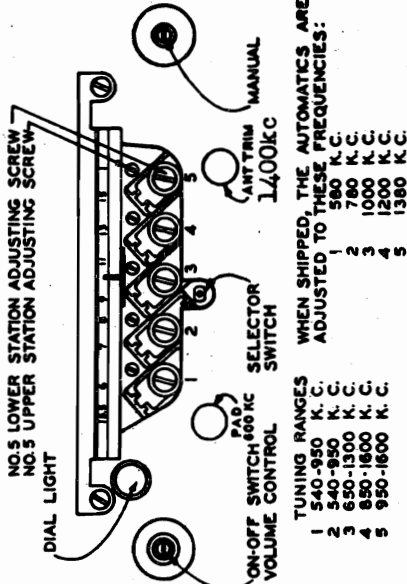

FIG. 5
2. Remove the plastic escutcheon over the tuning control by first pulling off the three (3) knobs and removing the lock nuts on the tuning and volume control shafts. With the escutcheon removed, the automatic adjusting screws become accessible as shown in Fig. 5. The adjustments are easily made by means of a small screw driver.
3. Select five stations within the frequency range shown under each set of adjustment screws in Fig. 5.